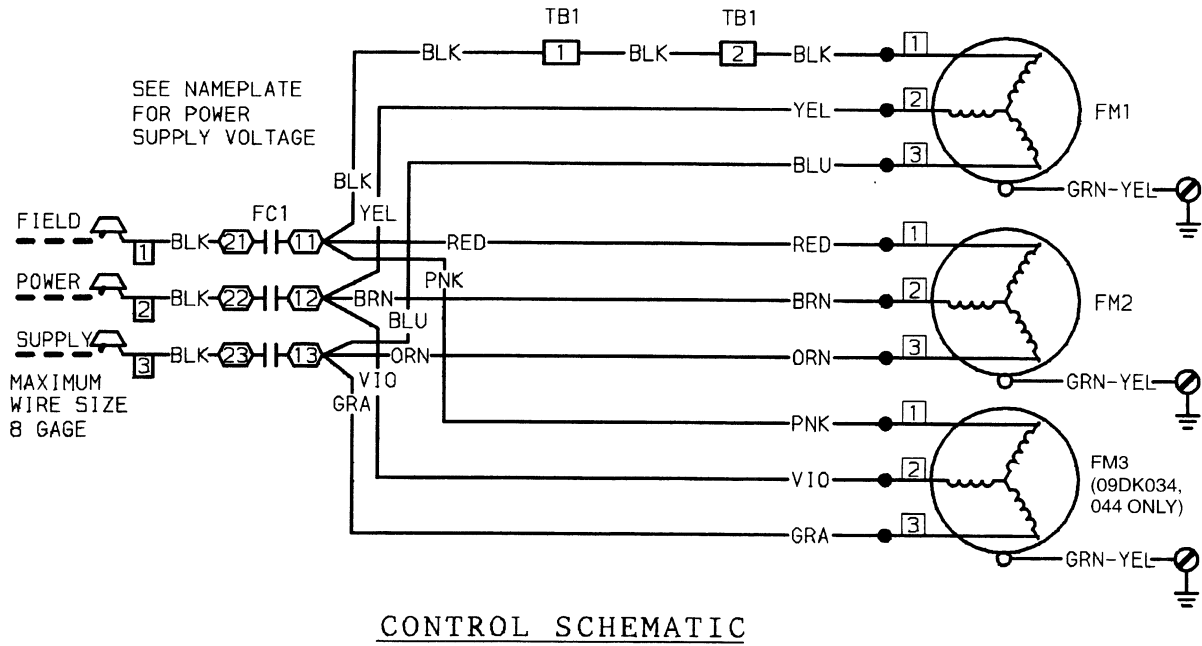

Fig. 3 — Standard Unit Power and Control Schematic, 09DK
9. Disconnect black wire connecting FM1 junction box to TB1 terminal 2 (575-v only). See Fig. 3. Disconnect yellow wire from FC1 terminal 12. Disconnect blue wire from FC1 terminal 13.